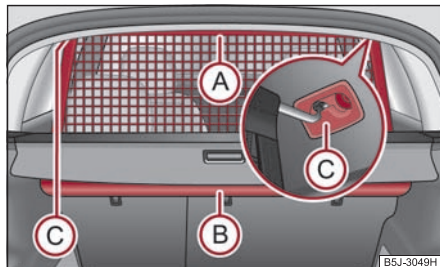

Fig. 87 Pull out net partition
- Pull the net partition at the bracket **(A)** out of the housing **(B)** in direction of the holders **(C)** ⇒ **fig. 87.**